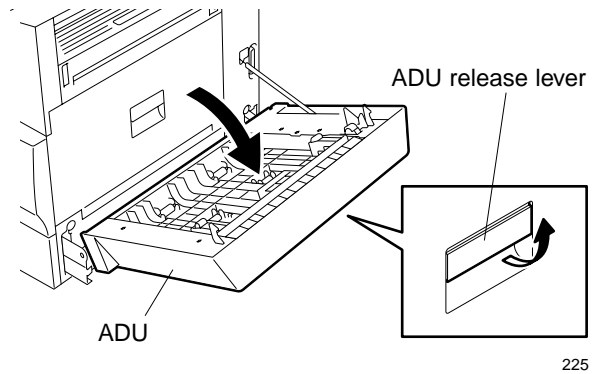

Fig. 6-3
(See Fig. 6-3 and 6-4)
3. Remove ADU paper guide assembly. (See Fig. 6-3 and 6-4)